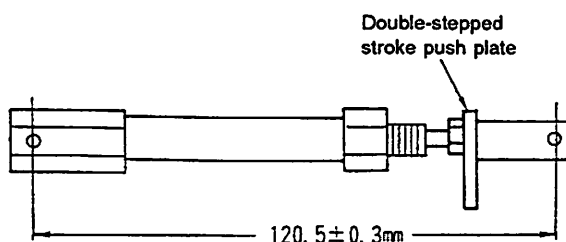

Fig. 4-7-2
- 2) Assemble the nut and the cylinder knuckle so that a 120.5 ± 0.3 mm center-to-center distance is provided between the $\phi 5$ mm hole in the work clamp foot cylinder and the $\phi 5$ mm hole in the cylinder knuckle. (Fig. 4-7-2)